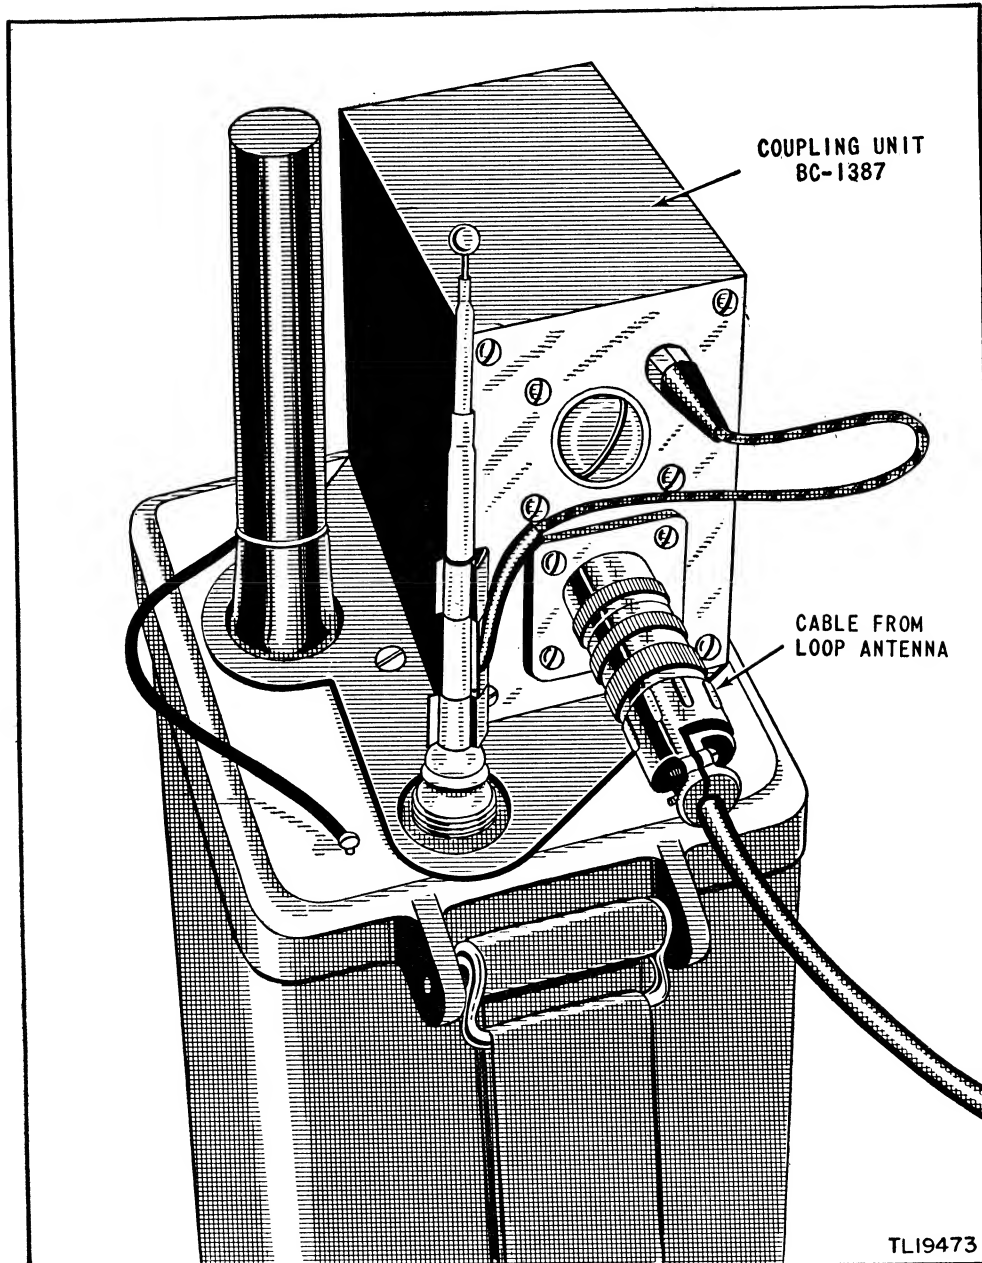

Figure 38. Details for mounting coupling unit on Radio Receiver and Transmitter BC-611-(*).
c. COUPLING UNIT BC-1387. The coupling unit (fig. 38) is housed in a steel can. The container has a mounting flange extending from its base plate which permits installation over the threaded antenna insulator base and the antenna cap mounting stud. The coupling unit contains an r-f coupling transformer and a variable capacitor for tuning the transformer. A short lead, extending through the front panel of the coupling unit and fitted with a clip, connects to the bottom section of the telescopic rod antenna of the radio set. A plug is mounted on the front panel and engages the connector on the transmission line.
d. ACCESSORIES. (1) Case CS-156-() provides carrying space for the radio set and Case CS-157-() provides carrying space for the kit components. The bags are fitted with suitable straps to permit slinging over the shoulder or under the arm. During homing operations the radio set may be carried in this bag.
(2) A bottom plate for Radio Receiver and Transmitter BC-611-(*) containing a jack for using an external headset is provided for installation on the chassis housing.